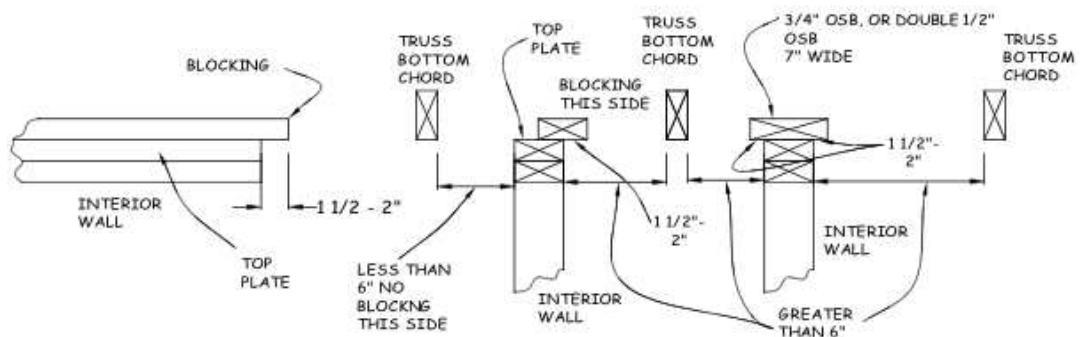

Figure 10-3. Blocking For Ceiling Rock.
2. Inspect the tops of all walls for areas where blocking may be needed for ceiling rock (see Figure 10-3). For interior walls that are greater than 6" from a truss, make sure that blocking extends at least 1 1/2"-2" beyond both ends and sides of any interior wall top plates. Blocking should be continuous at the top of each wall where required.